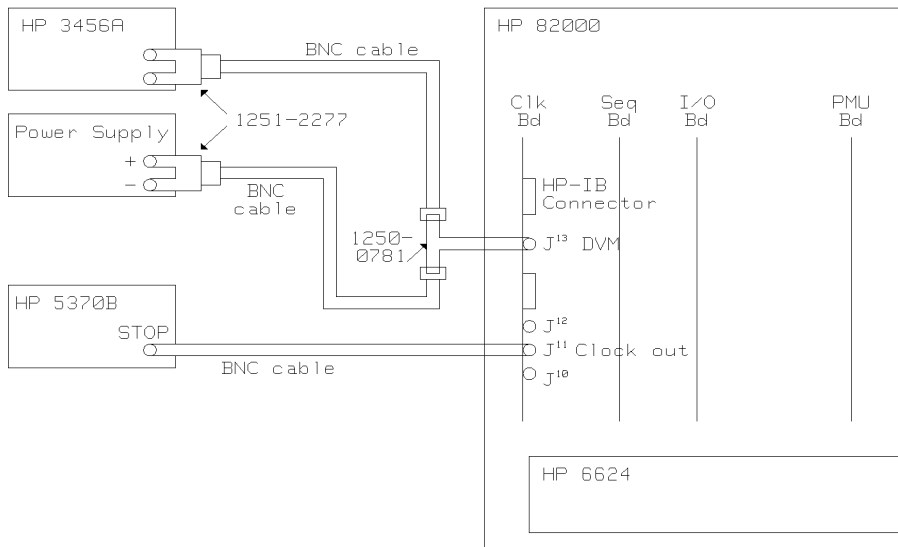

Figure 9-6. Base Calibration - Measurement Set Up
5. Connect the test-equipment as shown in Figure 9-6.